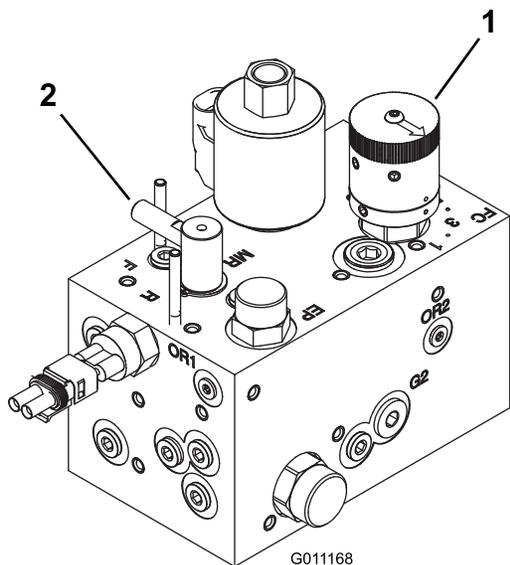

Figure 49
3. Turn the reel speed control knob (Figure 49) to the reel-speed number determined in Step 1.